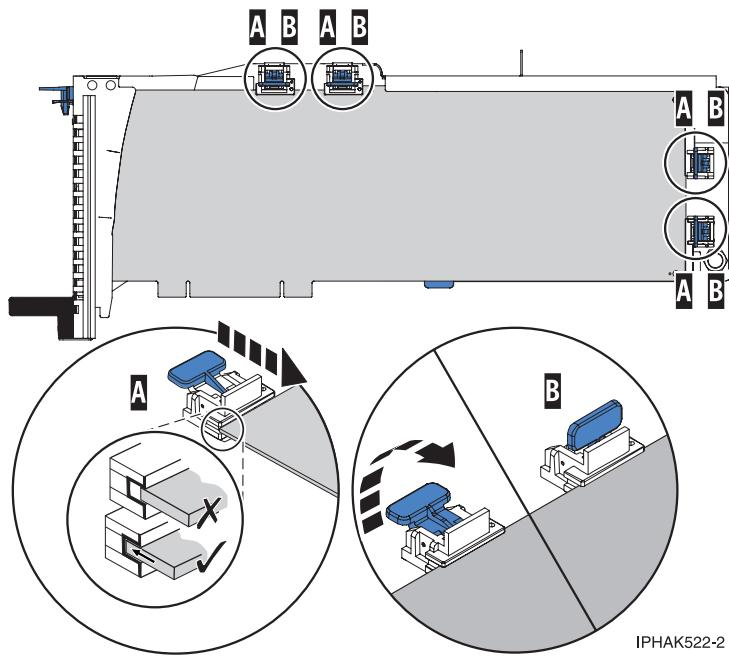

Figure 136. Large adapter in the PCI adapter cassette with the supports and stabilizer in place
- a) Place and lock the retainers (**B**). See Figure 136 on page 151.